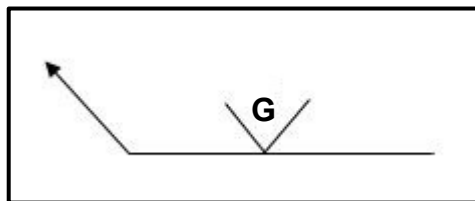

FIGURE 4.2
4.2 What does **G**, shown in FIGURE 4.2 below, represent?